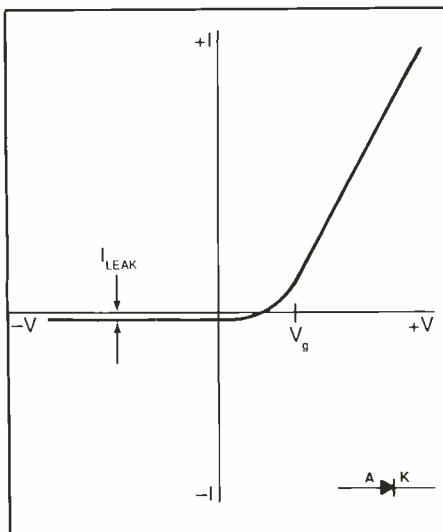

Fig. 4. The current-versus-voltage transfer characteristic of a diode.
Figure 4 shows the current-versus-voltage (I-vs.-V) characteristic for a diode. When the applied voltage is such that the anode (A) is negative with respect to the cathode (K), the diode is cut off and no current flows through it, which is the reverse-biased condition. In theory, current flow through the diode is zero. (In real diodes, however, there is always a tiny leakage current ( $I_{leak}$ ) in the reverse direction. As a general rule, the smaller the leakage current, the bet-